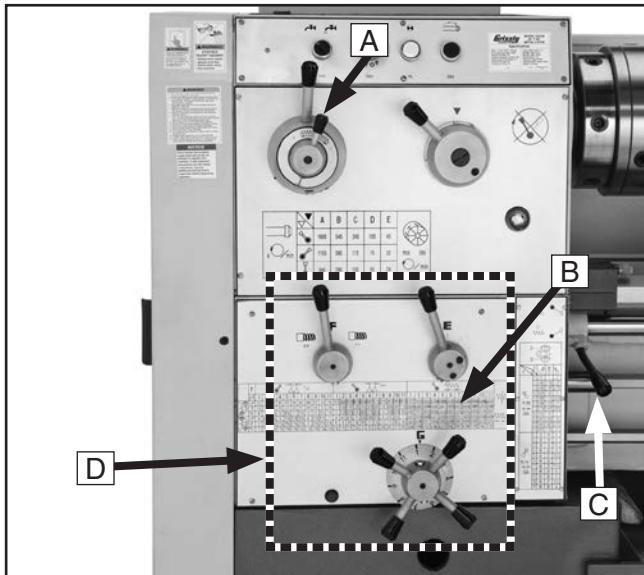

Figure 74. Power feed controls on the headstock.
Use **Figures 74–75** and the following descriptions to understand the power feed controls.
- A. Feed Direction Lever:** Selects the direction for power feed. When the lever is positioned as shown in **Figure 74**, the carriage will move to the right along the bed, or the cross feed will travel toward the front of the lathe.